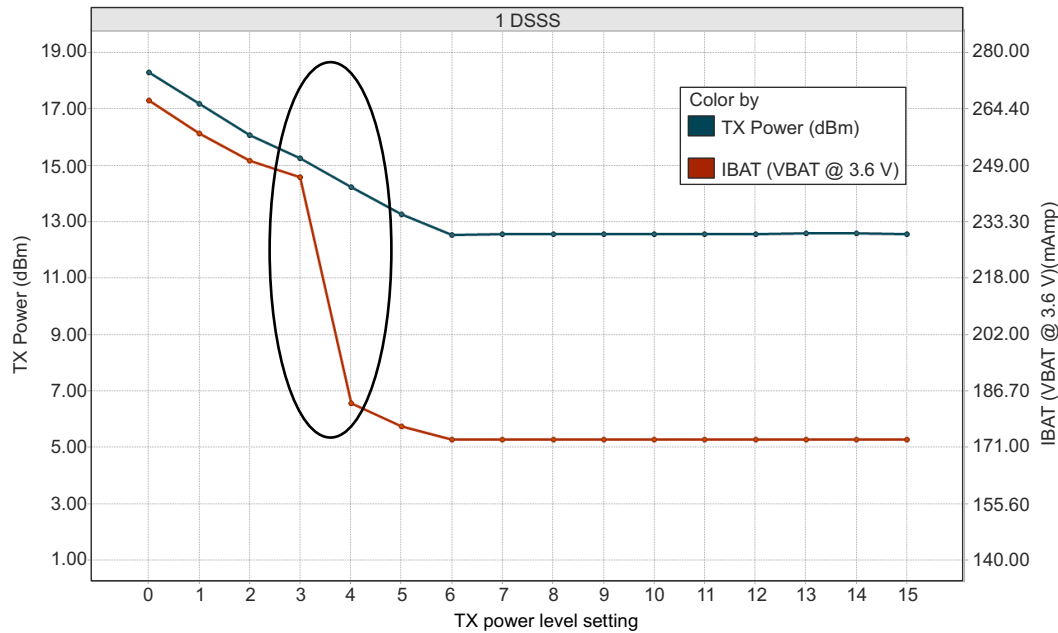
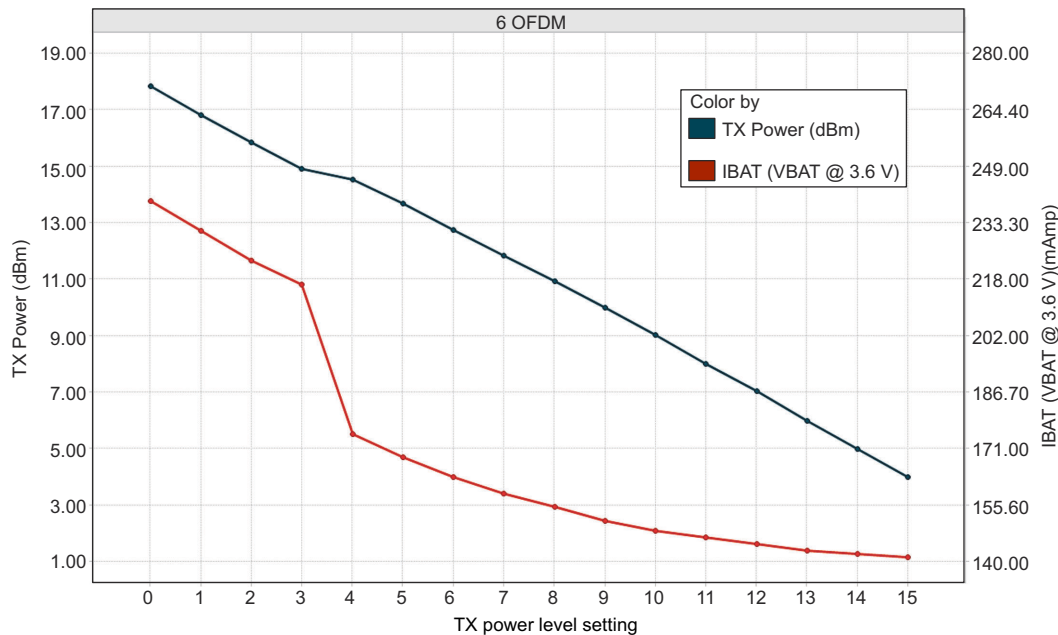
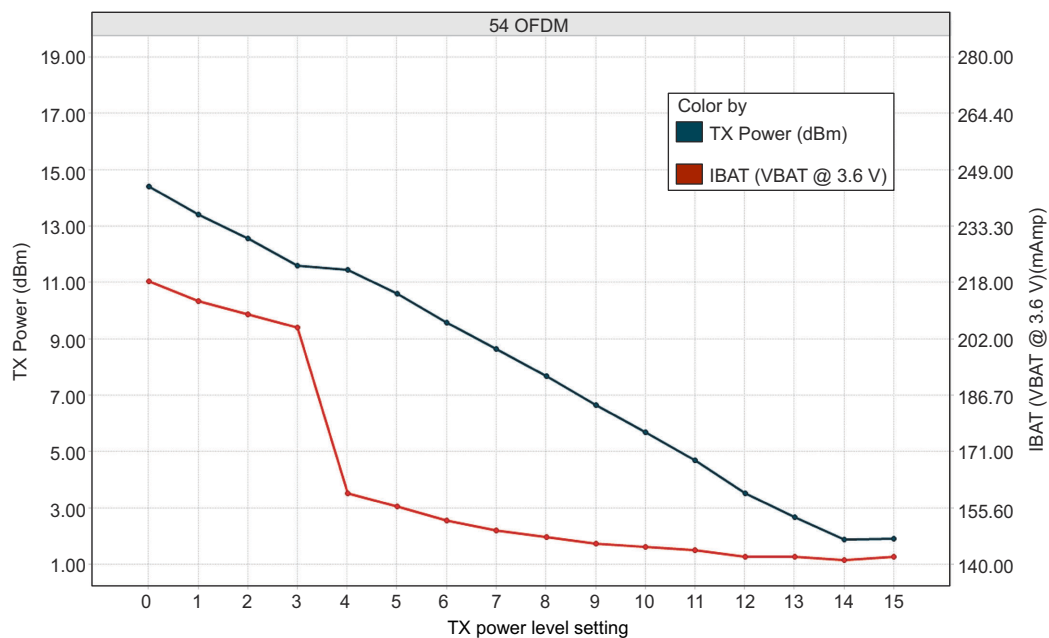

Figure 8-1. TX Power and IBAT vs TX Power Level Settings (1 DSSS)
Figure 8-2. TX Power and IBAT vs TX Power Level Settings (6 OFDM)
图 8-3. TX Power and IBAT vs TX Power Level Settings (54 OFDM)
(1) TX power level = 0 implies maximum power (see Figure 8-1, Figure 8-2, and Figure 8-3). TX power level = 4 implies output power backed off approximately 4 dB.
(2) LPDS current does not include the external serial flash. The LPDS number of reported is with retention of 256KB of MCU SRAM. The CC3220x device can be configured to retain 0KB, 64KB, 128KB, 192KB, or 256KB of SRAM in LPDS. Each 64-KB block of MCU retained SRAM increases LPDS current by 4 μA .
(3) DTIM = 1
(4) The complete calibration can take up to 17 mJ of energy from the battery over a period of 24 ms. Calibration is performed sparingly, typically when coming out of HIBERNATE and only if temperature has changed by more than 20°C. The calibration event can be controlled by a configuration file in the serial Flash..
Figure 8-1, Figure 8-2, and Figure 8-3 show TX Power and IBAT versus TX power level settings for the CC3220R and CC3220S devices at modulations of 1 DSSS, 6 OFDM, and 54 OFDM, respectively. For the CC3220SF device, the IBAT current has an increase of approximately 10 mA to 15 mA depending on the transmitted rate. The TX power level will remain the same.
In Figure 8-1, the area enclosed in the circle represents a significant reduction in current during transition from TX power level 3 to level 4. In the case of lower range requirements (14-dBm output power), TI recommends using TX power level 4 to reduce the current.